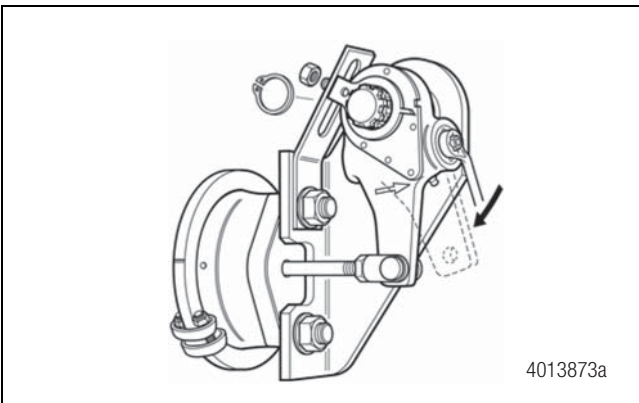

Figure 4
- Fit the ASA onto the camshaft so that the hex nut points away from the air chamber. Figure 4.